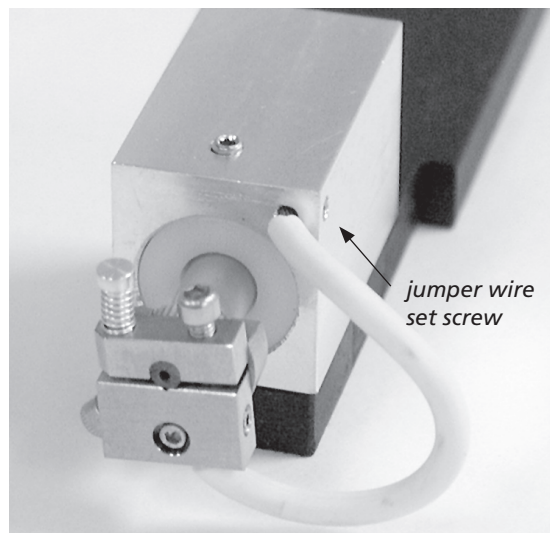

Figure 19: ADPT-MZS mounted on base
3. Connect the jumper wire between the spring clamp of the adapter and the base of the mounting block (see Figure 19). Connect one end of the jumper wire into the hole in the base of the adapter. Lock it into place by tightening the set screw.